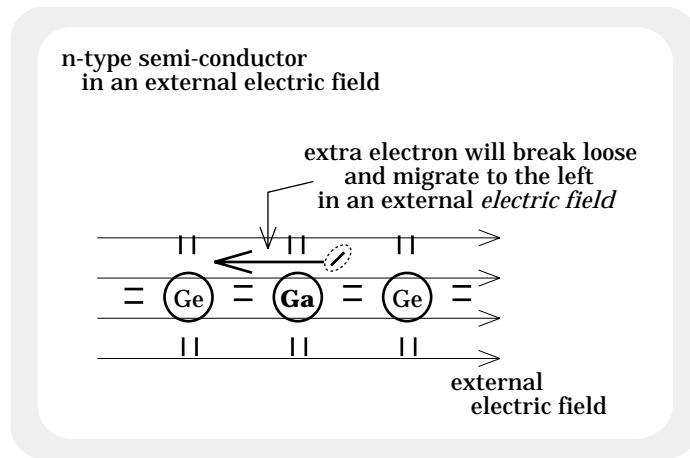

FIGURE 21.2b
c.) Due to this loose attraction, a small external electric field is all that is needed to break the extra electron away from its host atom. Once free, the electron can migrate through the structure just as do electrons in conductors (see Figure 21.2b).